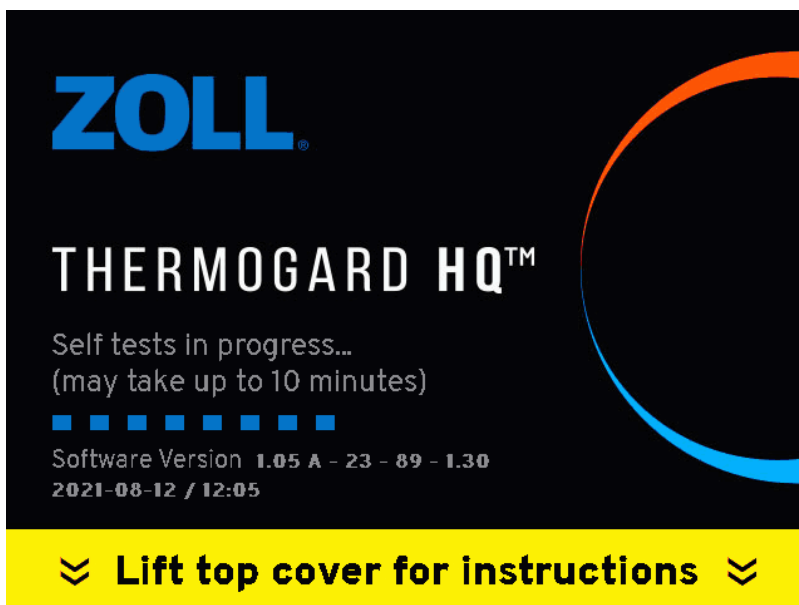

Figure 4.30. Self-Test screen
Note. The software version shown in Figure 4.30 is shown for reference only; the current product may use a different software version.
14. If the console has not yet finished its self tests, the Self-Test screen is displayed (Figure 4.30).